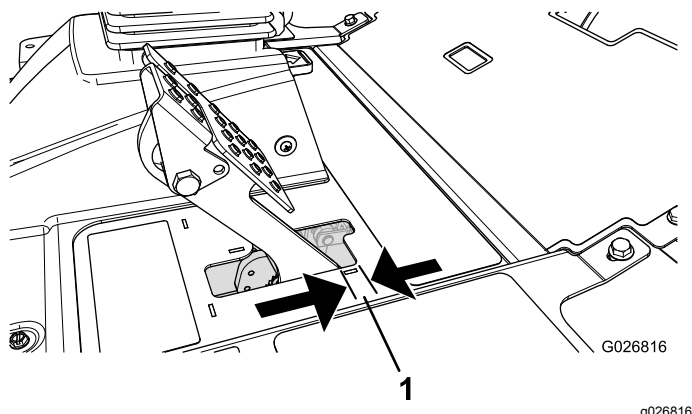

Figure 60
Adjust the brakes when there is more than 2.5 cm (1 inch) of free travel (Figure 60) of the brake pedal, or when more holding force is required. Free travel is the distance the brake pedal moves before you feel braking resistance.
2. Tighten the rear nut to move the cable backward until brake pedals have 6 to 13 mm (1/4 to 1/2 inch) of free travel (Figure 60), before wheel lock-up is achieved.